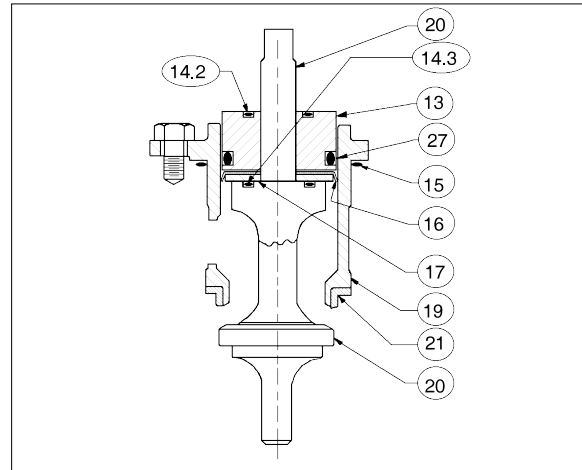

Figure 2: Assembled ITA,
1. Units with Composition Diaphragm(s) (See Figure 2):
- a. Pull the valve plug (20) downwards and out of the piston-guide bearing (13) and out of the cage's (19) bottom, while holding the cage (19).
- b. Remove the piston-guide bearing (13) from the upper end of the cage (19).
- c. Remove o-ring middle stem seal (14.2) from piston-guide bearing (13).
- d. Examine the components (27.1, 27.2, 27.3, 27.4, 27.5, 27.6) of the dynamic side seal (27) mechanism to determine if significant leakage was occurring. If the dynamic side seal (27) shows signs of significant leakage, determine if operating conditions are exceeding pressure, pressure drop, or temperature limits.